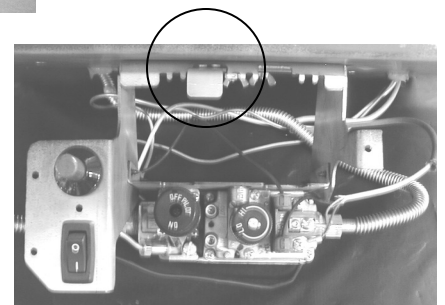

Figure 12A
## EXTERNALLY ADJUSTABLE VENTURI. FIGURES 12A - 12C.
**Natural Gas:** Lever is positioned in the left notched out section of the bracket as shown in Figure 12A. This is approximately 1/4" opened.